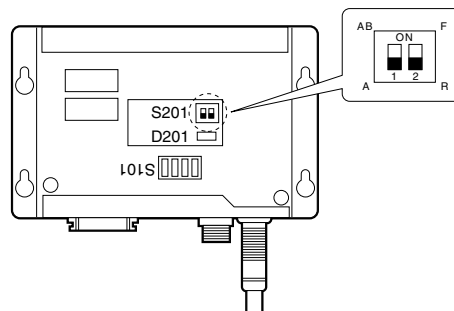

Fig. 3-3
- Remove the cover of the PL23 unit and check the LED (Fig. 3-3. D201) lights when the reference point is passed. If the LED does not light, move the switch on the board (Fig. 3-3. S201 No.2, F/R) from the position F to R (or R to F), and pass the reference point once again in the same direction and confirm that the LED lights. Then reinstall the cover.